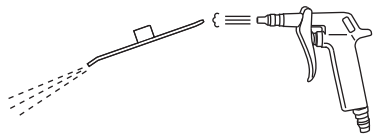

Fig. 17
- 1 Remove moisture inside and on the surface of the product using a dry cloth, air gun, etc (Fig. 17).